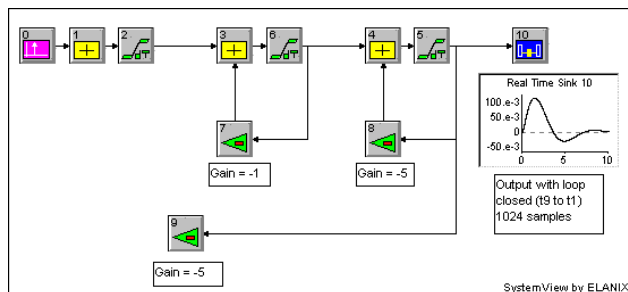
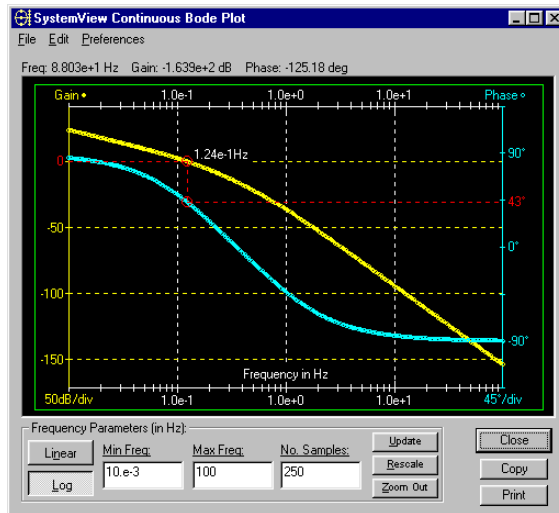
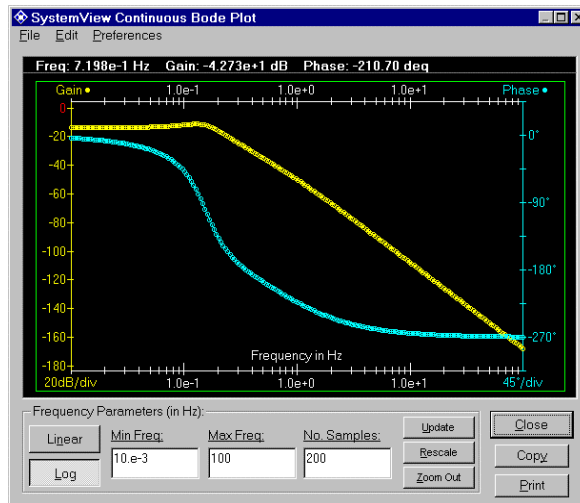

Figure 15.2. A third-order system for Root Locus and Bode computation
Figure 15.6 The SystemView Bode plot window for the open-loop system
Figure 15.7. The SystemView Bode plot window for the closed-loop system
1. Disconnect the output of the last token in the feedback path of the system (e.g., disconnect token 9 from token 1 as shown in Figure 15.2).
An example is shown in Figure 15.2, for the third-order system. The open-loop transfer function for this system is, $H(s) = \frac{-5}{s(s+1)(s+5)}$
already has feedback gain, (e.g., token 9 in Figure 15.2), then the total feedback gain corresponding to a root location is the displayed gain value *times* the existing gain.
The system in Figure 15.2 has poles in the right half plane for an additional gain of six or greater and will be unstable for a total loop gain exceeding approximately 30 (6.027×5 , token 9 has a gain of 5). Note the root locus in the Z-Domain with implicit delays, shows instability for an additional gain of 6.3, or total of 31.5. The radial lines show critical damping ratios, 0.9, 0.707, 0.5, 0.25, and 0.1
Z-Domain Root Locus for the system in Figure 15.2 (zoomed)
Z-Domain Root Locus (with implicit delays) for system in Figure 15.2 (zoomed)
The Bode plot shows the magnitude and phase of $H(s)$ as a function of the frequency f in Hz (with $s = j2\pi f$). An example is shown in Figure 15.6 for the *open-loop* system discussed in Section 15.1, and shown in Figure 15.2. The *closed-loop* (i.e., connecting Gain token 9 to Adder token 1) response for the same system is shown in Figure 15.7.
- For the open-loop Bode plot, disconnect the output of last token in the feedback path of the system (e.g., disconnect token 9 from token 1 as in Figure 15.2).
The system phase margin is computed from the system phase at the frequency where the system gain is 0dB. This point is automatically indicated in the display as shown in Figure 15.6.